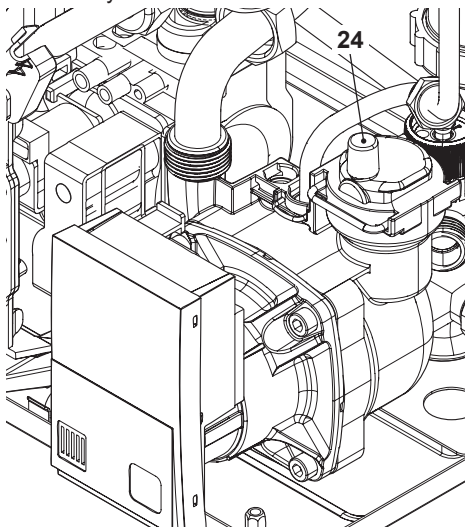

Fig. 7.2
- Unscrew the plug on the automatic air purger valve 24 in Fig. 7.2 and leave open permanently.